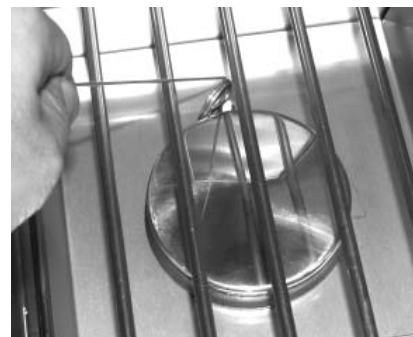

Fig. 15-2 - Manual lighting
2. Insert either a burning long-barrel butane lighter, a burning long-stem match, or a burning match held by a wire extension holder through the cooking grid opening to the burner (Fig. 15-2). Hold the flame against the edge of the burner.
4. If the burner does not light within five (5) seconds of turning the control knob, **immediately depress the knob and turn the valve to OFF**. **WAIT FIVE (5) MINUTES** before repeating steps 2 through 4 of the MANUAL LIGHTING instructions.